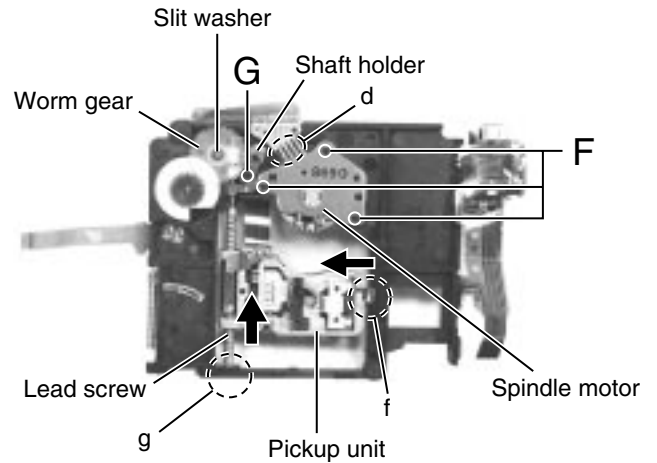

Fig.9
■ Removing the spindle motor(See Fig.9)
■ Removing the pickup unit(See Fig.9)